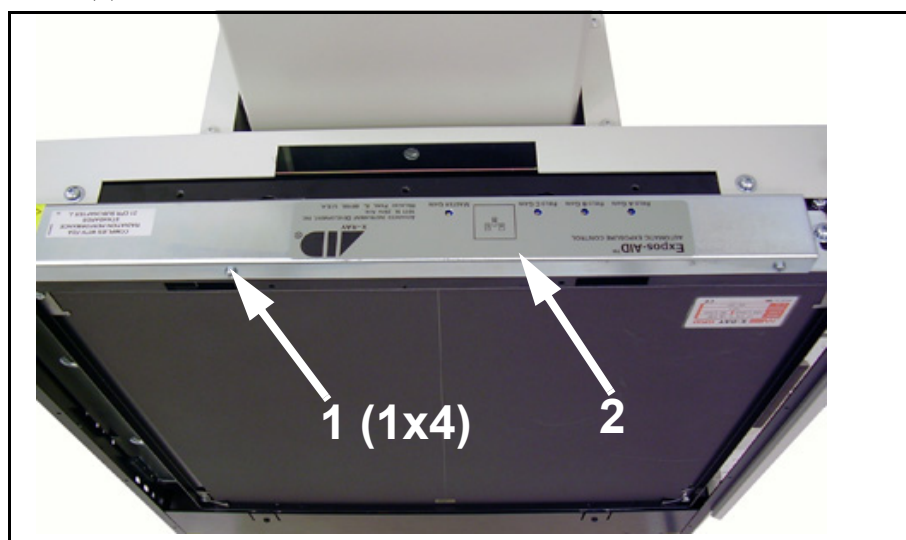

Figure 5-9. ION Chamber Cover Screws
- 9 Unscrew the four cover screws (1 in Figure 5-9) and remove the ION cover (2).